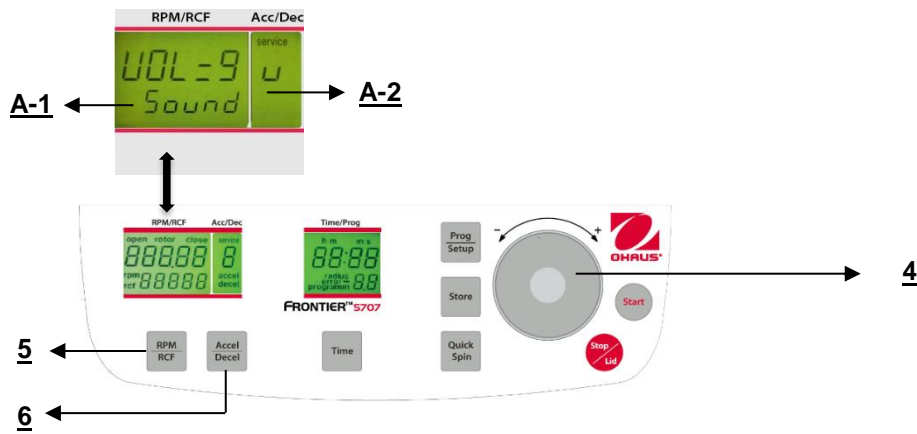

Figure. 30
Proceed as described under point 4.1.2 to enter this program mode and then press the key **"Accel/Decel"** (6). In the display **"Acc/Dec"** (A-2) the word **"Service"** flashes. Now select the letter **"U"** with the adjusting dial (4). As a result, in the display **"RPM/RCF"** (A-1) the words **"Vol=0- 9/Sound"** appear. After pressing the key **"RPM/RCF"** (5), you can adjust the desired volume between 0 (low) and 9 (high) with the adjusting dial (4) (See figure 30).